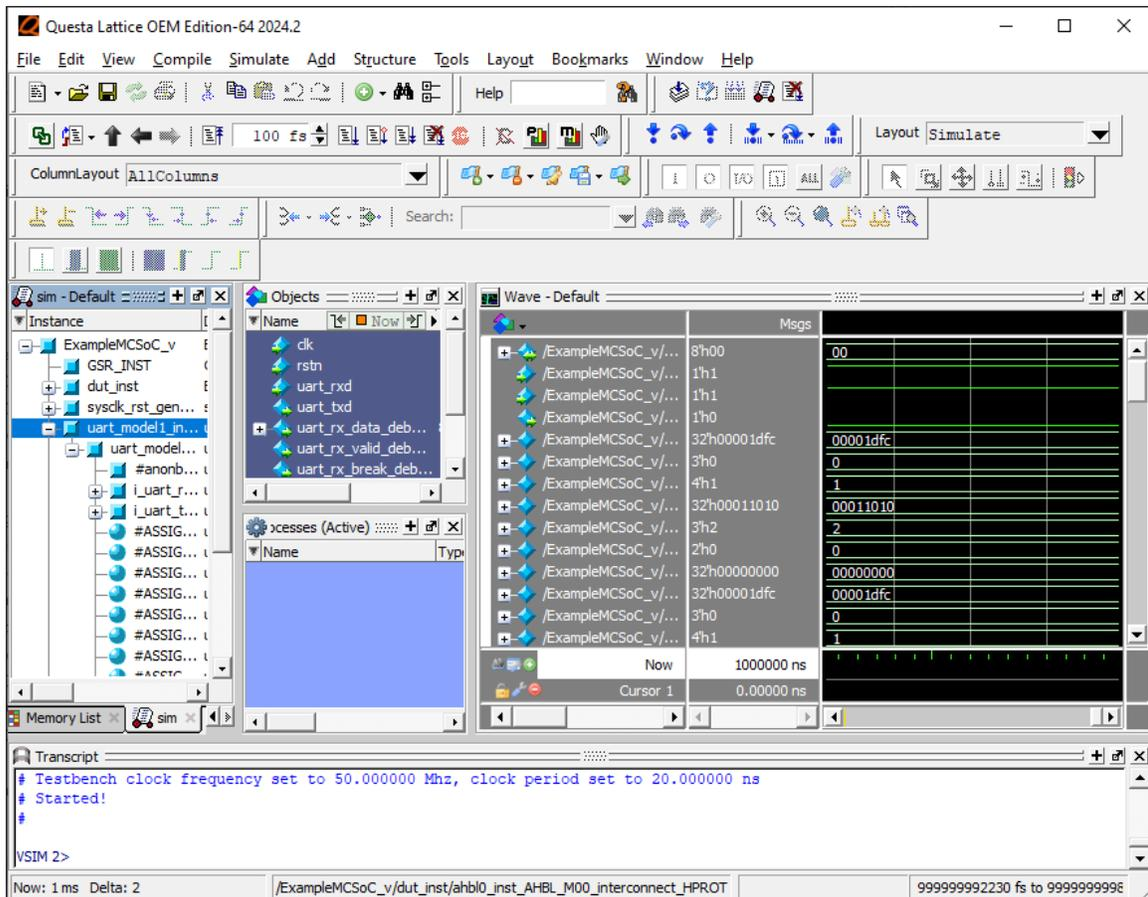

Figure 3.36. Questa Simulation GUI
4. QuestaSim is launched running simulation for the SoC verification project. The corresponding waveform of the SoC verification project for the Hello World project is shown (Figure 3.36). Check the waveform.